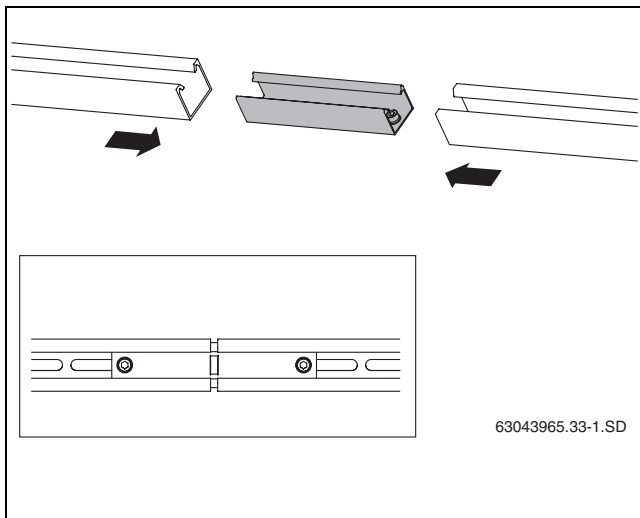

Fig. 27 Connecting profile rails
- ▶ Push rail connector (Fig. 27, [1]) as far as it will go into both profile rails (Fig. 27, [2]).
- ▶ To lock, tighten both fitted M10 threaded studs (Fig. 27, [3]) in the rail connector using a size 5 Allen key.